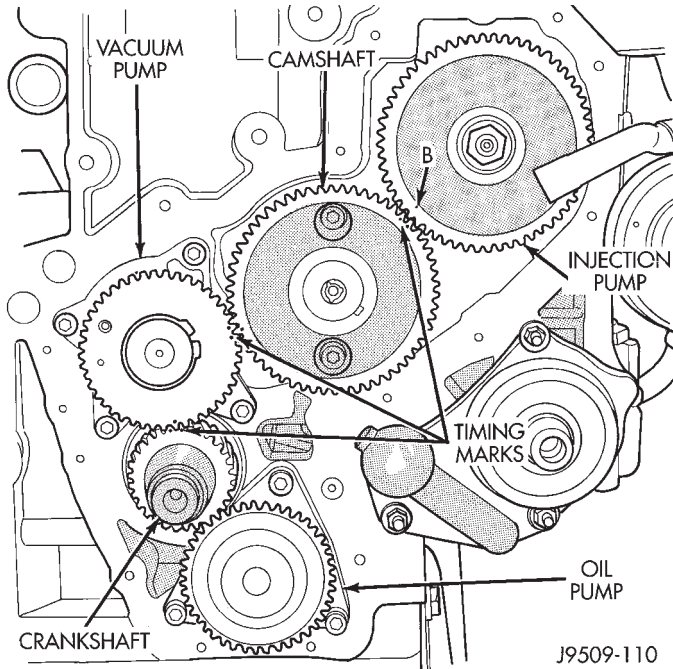

Fig. 33 Timing Marks
(1) Coat the camshaft journals with clean engine oil and carefully install the camshaft complete with thrust plate and gear. Tighten retaining bolts to 24 N·m (18 ft. lbs.) torque. Be sure to align the timing marks as shown (Fig. 33).